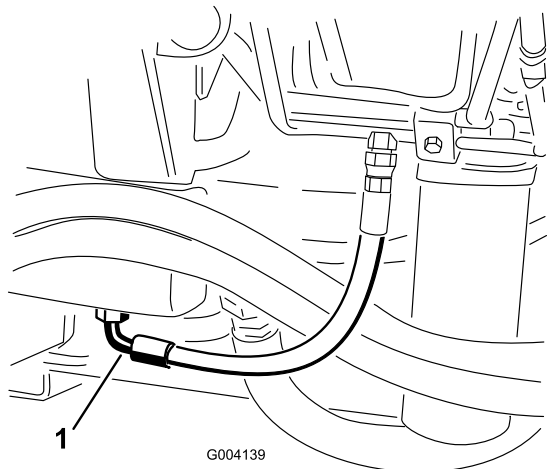

Figure 69
2. Place a large drain pan under the fitting secured to the bottom of the hydraulic-fluid reservoir (Figure 69).